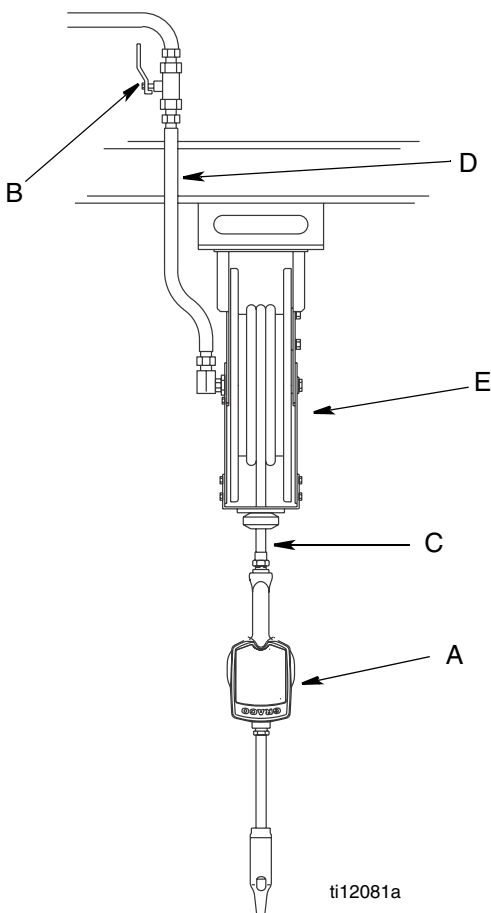

FIG. 1
FIG. 1 shows a typical hose reel installation. Dispense valves can also be installed on a console as shown in FIG. 2.
The typical installation shown in FIG. 1 is only a guide. It is not a complete system design. Contact your Graco distributor for assistance in designing a system to suit your needs.
3. Close the shut-off valve (B, FIG. 1, page 4).